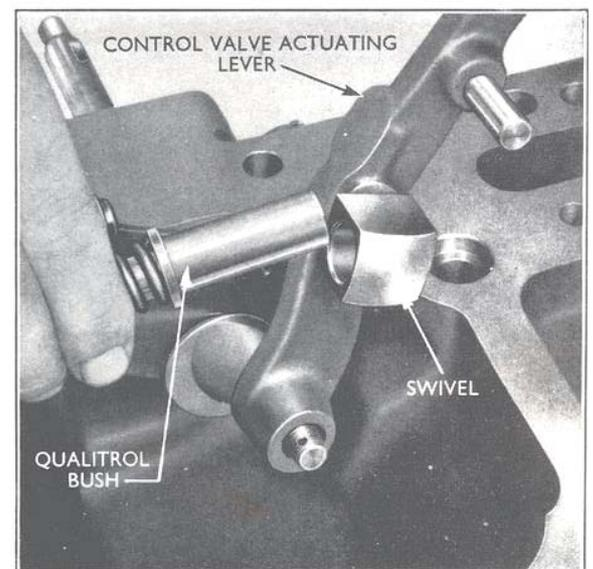

Fig. 30
11. Remove the split pin, nut and flat washer securing the control valve actuating lever assembly to the lift control lever shaft and slide the actuating lever and swivel assembly forward off the qualitrol bush (see Fig. 30). Withdraw the actuating lever from the lift control lever shaft and remove it from the lift cover. If necessary, remove the swivel from the actuating lever after extracting the special snap ring.